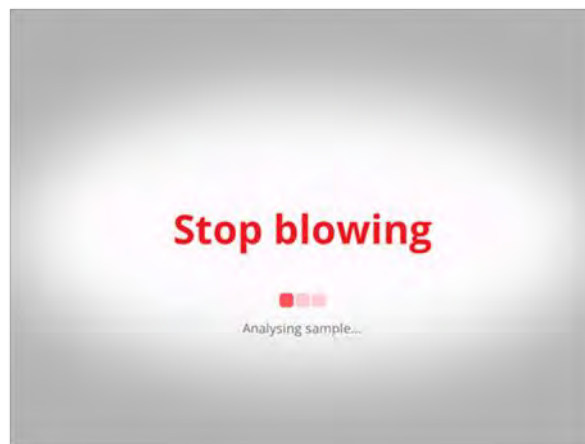

Figure 10 – Stop Blowing
- e. Stop blowing when the display shows Stop Blowing. This will also be indicated by a long beep (refer Figure 10).